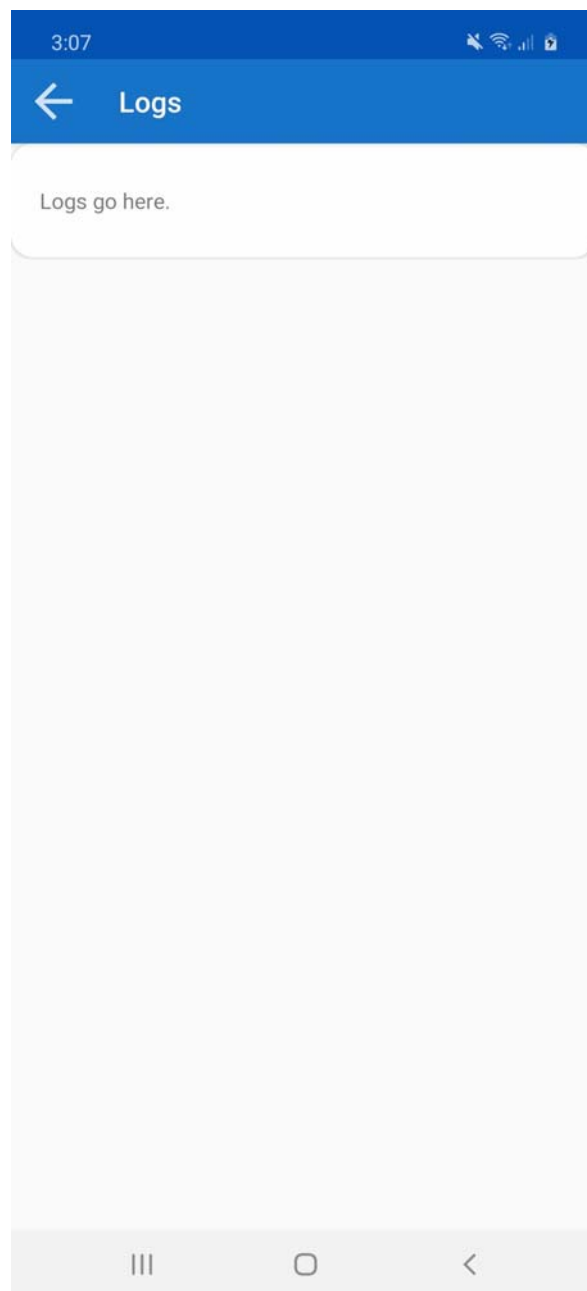

Figure 24. Log Box for the Android App
10. All processes log in the **Logs** box (see Figure 24).